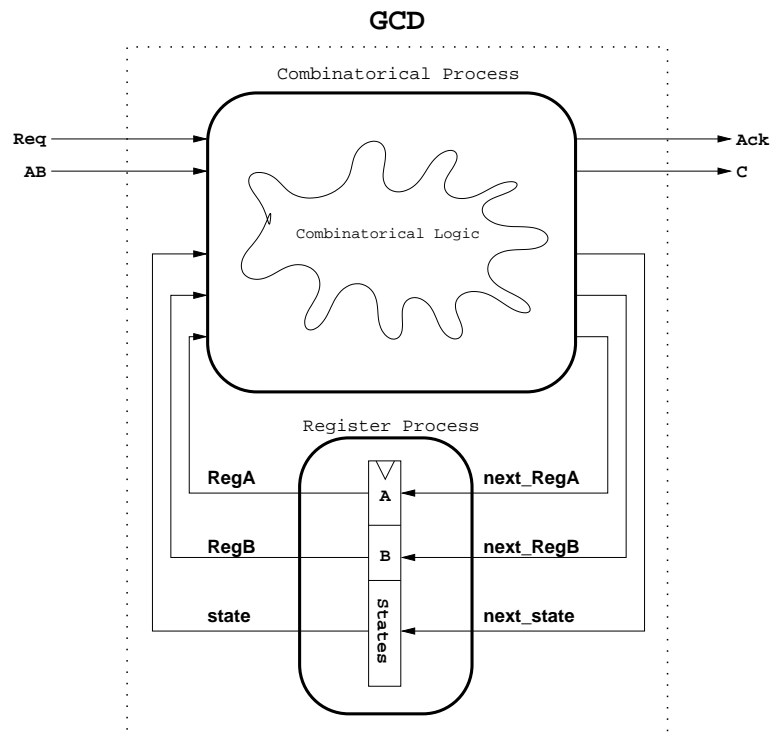

Figure 4: An RTL structure describing the processes needed.
Figures 4 and 5, i.e., cleanly separated into combinational logic (which is synthesized) and D-flip-flops (which are inferred).
- c) Write in VHDL a new RTL-level FSMD-style architecture body for the GCD entity. The code should be structured following the two-process template described in most textbooks on VHDL and illustrated in Figure 4 and Figure 5.